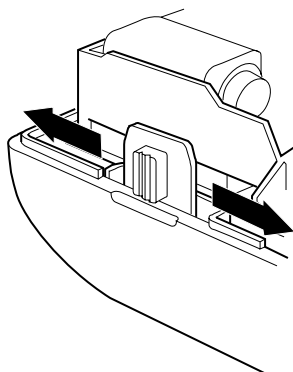

Figure 16: Vibrator switch testing
1. (Figure 16) When reassembling the vibrator switch ensure that it is located correctly before completing reassembly.